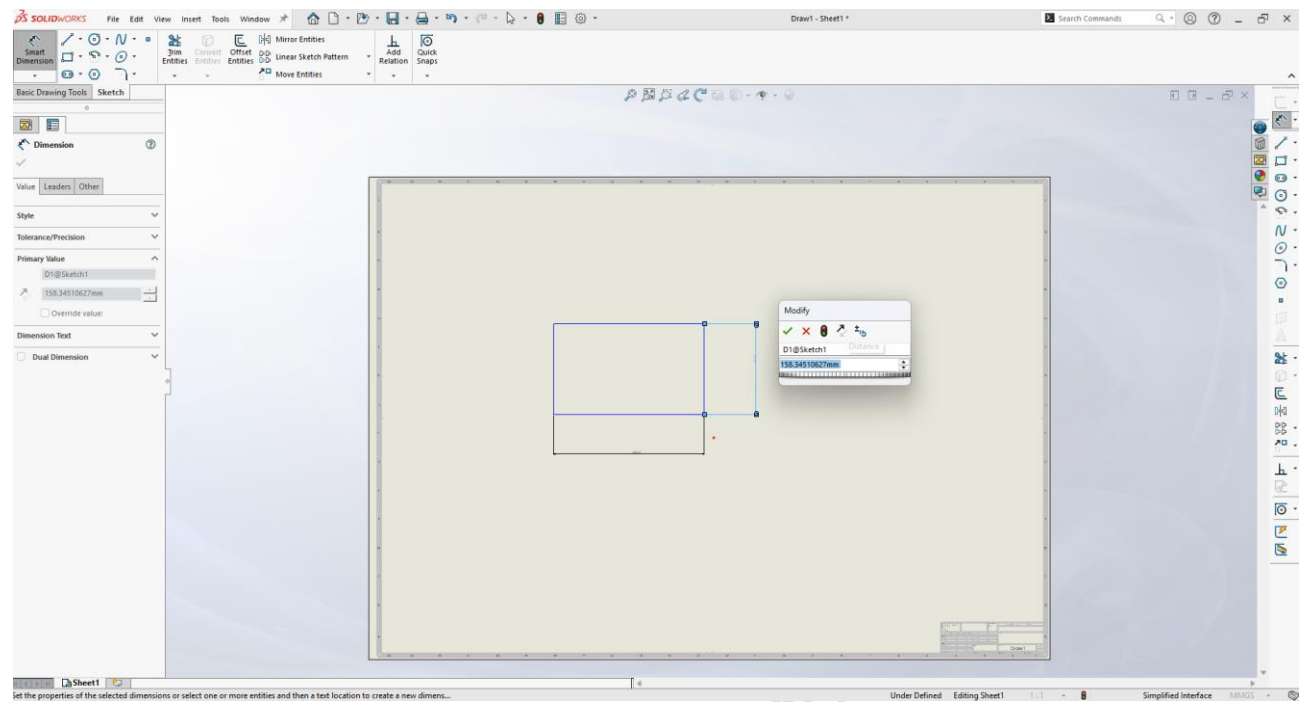

Figure 2.28: Rectangle - Length
The process of determining the Rectangle length, Rectangle width and Distance between two (2) lines is shown in Figures 2.28, 2.29 and 2.30.